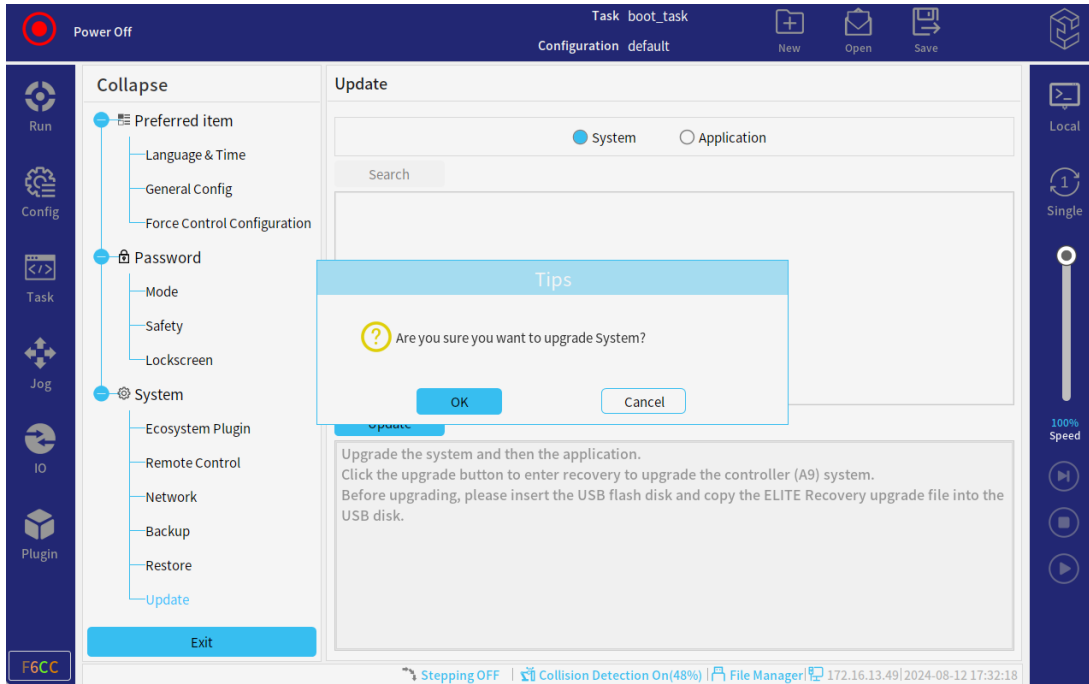

Figure 3-28 : System update
- System Update: click "Update" and "OK" under the system, as shown in **Figure 3-28**. Click the "start" button in the interface, and then select upgrade package with the suffix. eru to upgrade the system. After the upgrade is successful, the system will restart automatically to complete the system update;